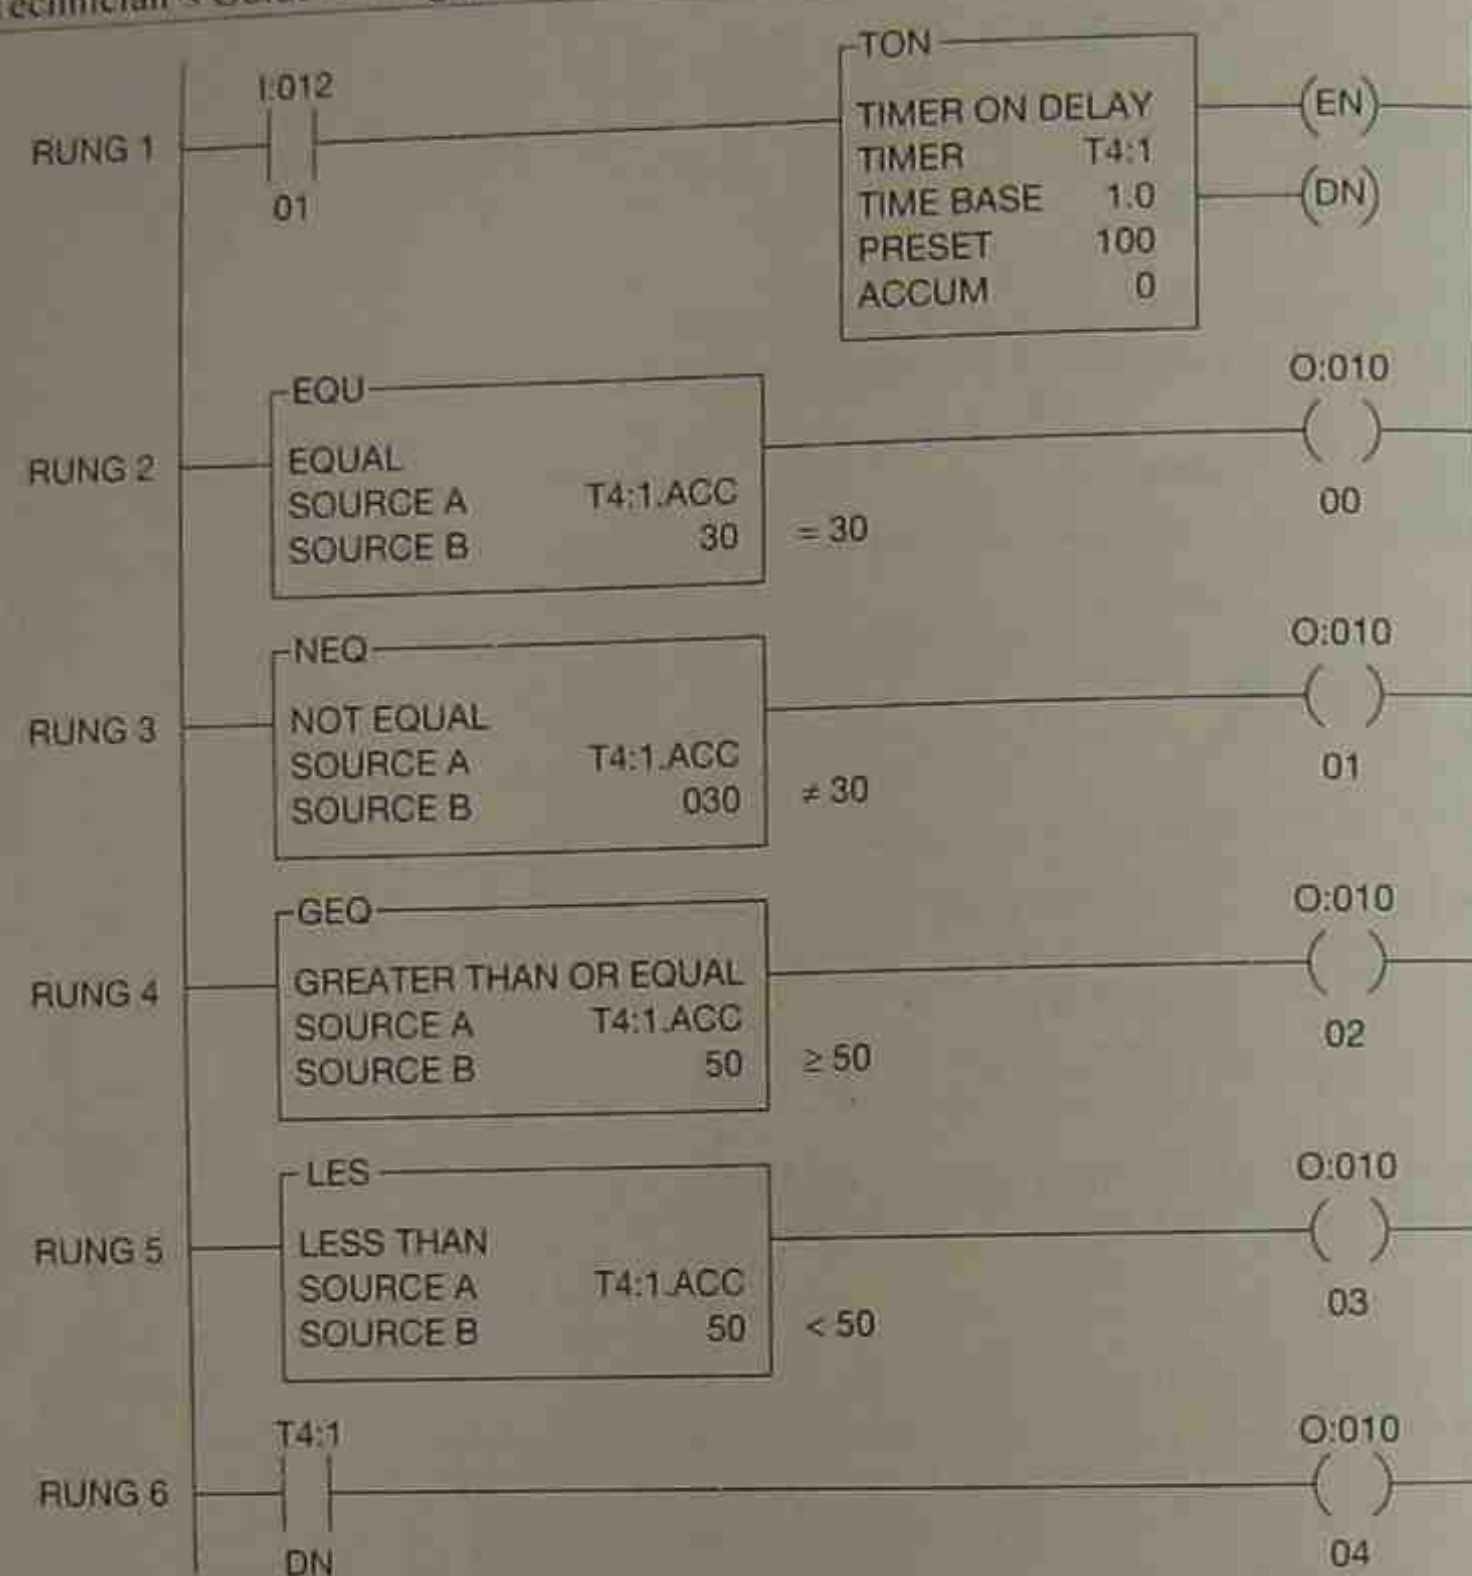
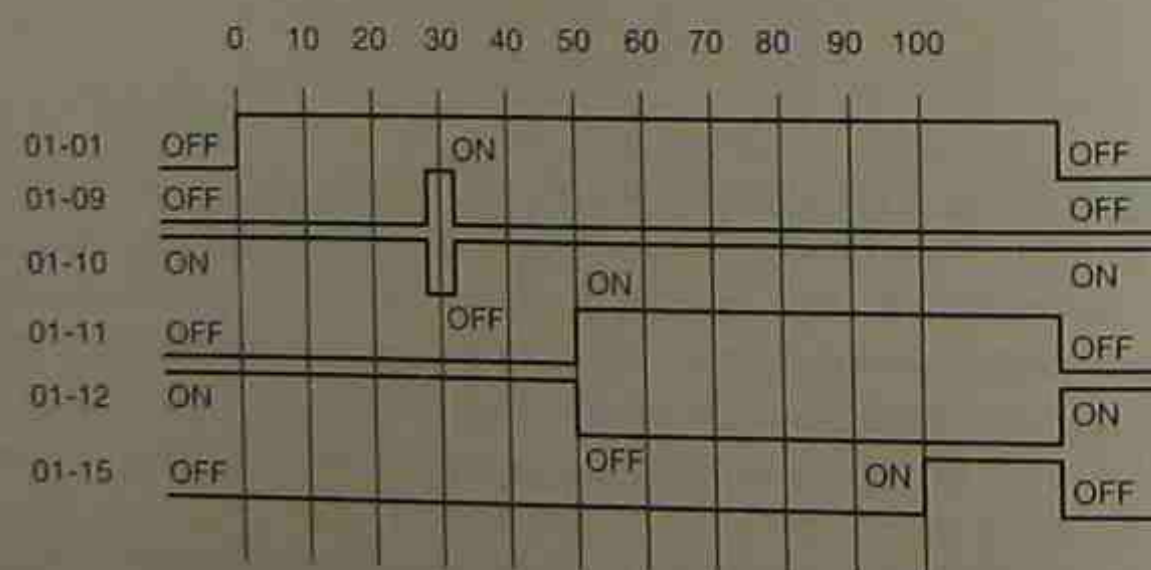

Figure 14-15 Data Compare Instructions
Figure 14-16 Time Chart for Data Comparisons
To further illustrate how the DATA COMPARE instructions work, consider the program in Figure 14-15 and the Time Chart for Data Comparisons in Figure 14-16.
Output O:010/04, the timer done bit (DN), comes *ON* at 100 when the accumulated value equals the preset value. The time chart in Figure 14-16 illustrates the *ON* and *OFF* states of the outputs in relation to time and the DATA COMPARE instructions.